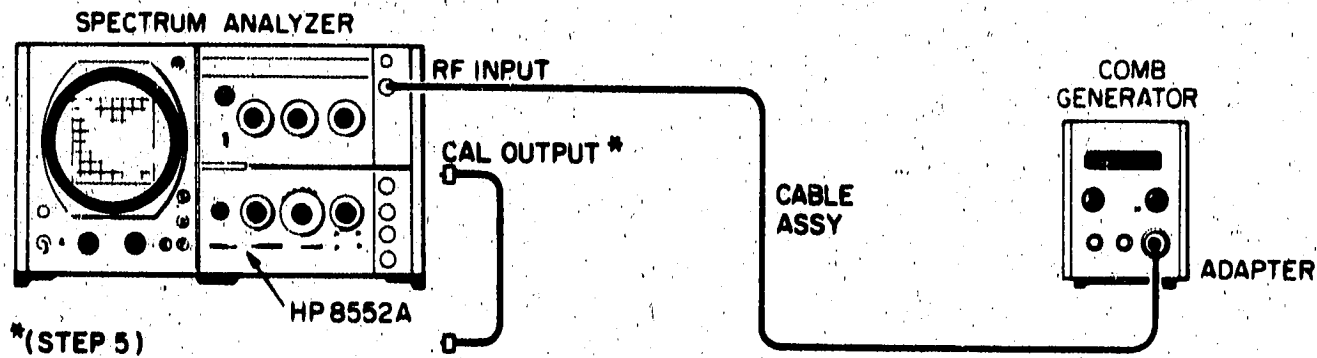

Figure 4-4. Calibrator Frequency Test
3. Connect the equipment shown in Figure 4-4 and make the following settings: